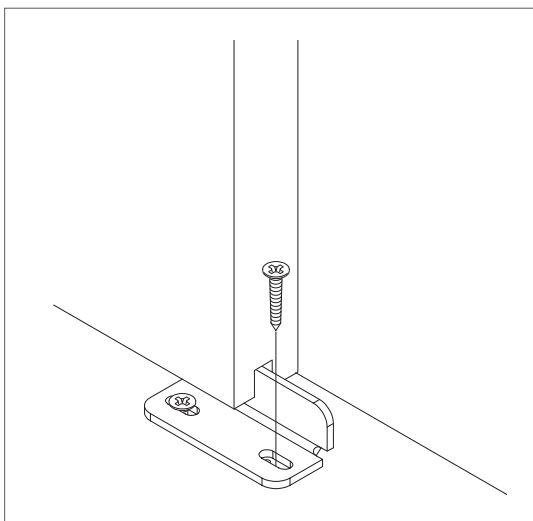

Figure 2
5. Install the second 1" phillips screw (F.) using a drill with a phillips bit (Figure 2).